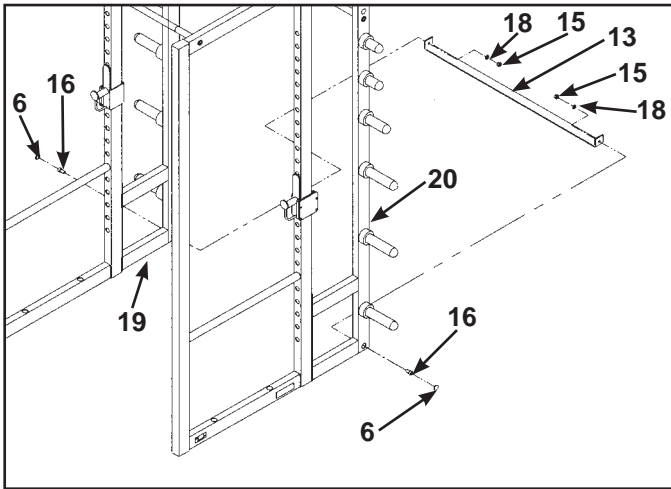

Figure 12
**8. Attach bottom support bar (see steps 8A and 8B and Figure 12).**
- B. Secure bottom support bar (#13) to right and left side attachments (#19 and #20) using two lockwashers .50 (#18), two hex nuts .50-13 (#15), two SHCS .50-13 x 1.00 (#16) and two plastic inserts 1.19 Dia. (#6). See Figure 12.